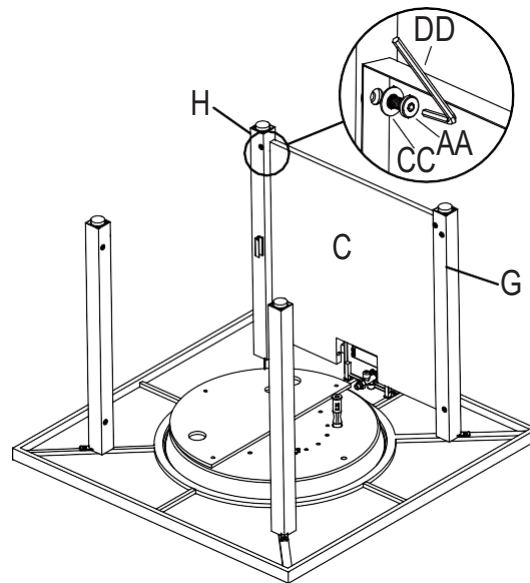

Figure 3
- Attach front panel (C) to front-left leg (H) and front-right leg (G) with bolts (AA) and washer (CC) using hex screw driver (DD), (see Figure 3).